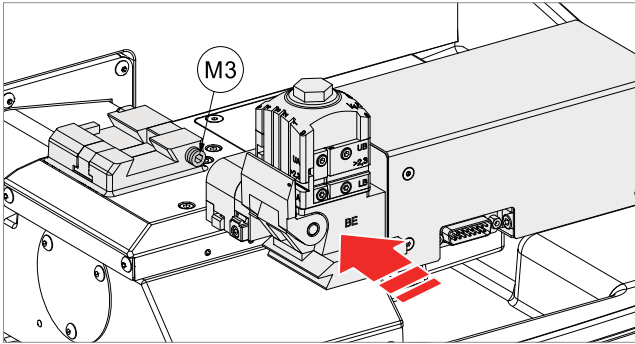

Fig. 26
- 1) Fit the clamp into the special dovetail groove (Fig. 26).